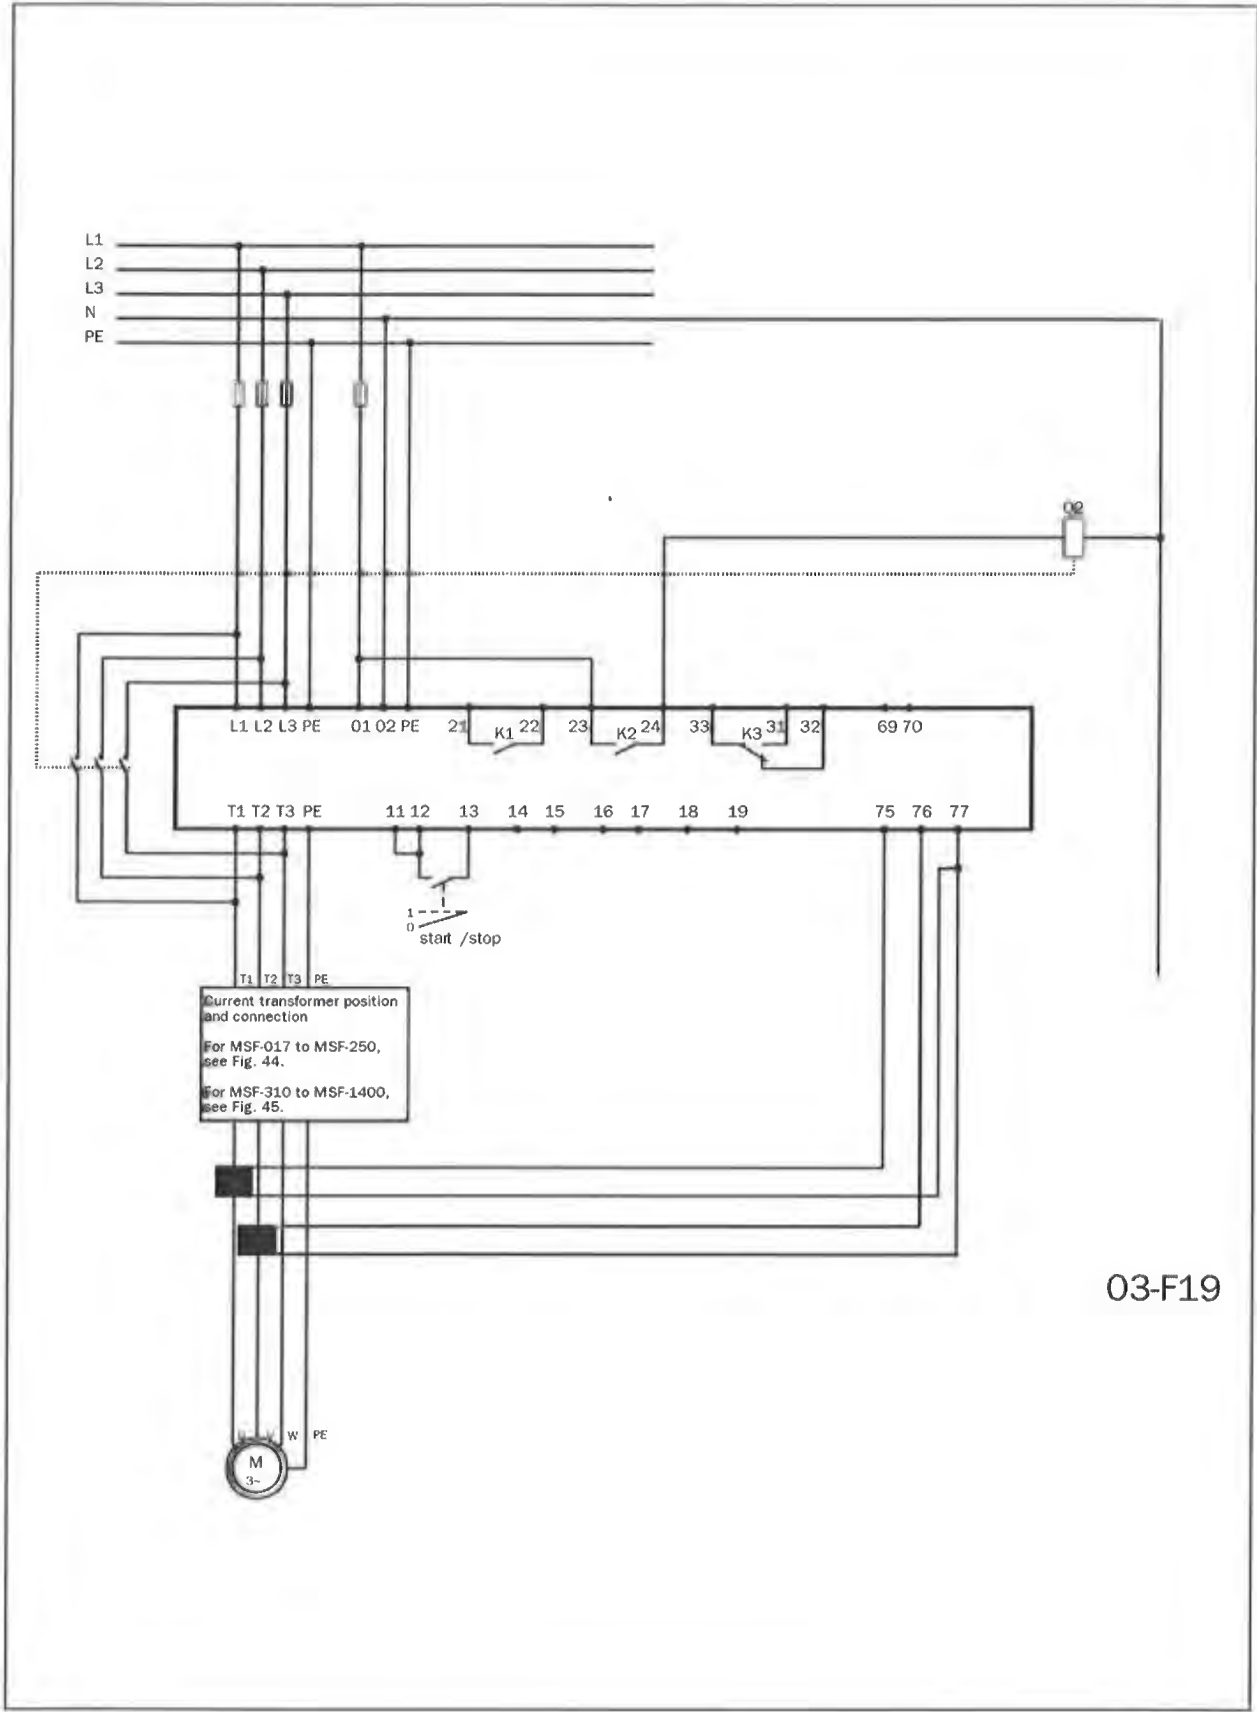

Fig. 43 Bypass wiring example MSF 310-1400.
**CAUTION!** If the current transformers are not mounted as in Fig. 43 on page 44 and § 6.2, page 28, the alarm and viewing functions will not work. Do not forget to set menu 032 to ON, otherwise there will be an F12 alarm and at the stop command will be a freewheeling stop.